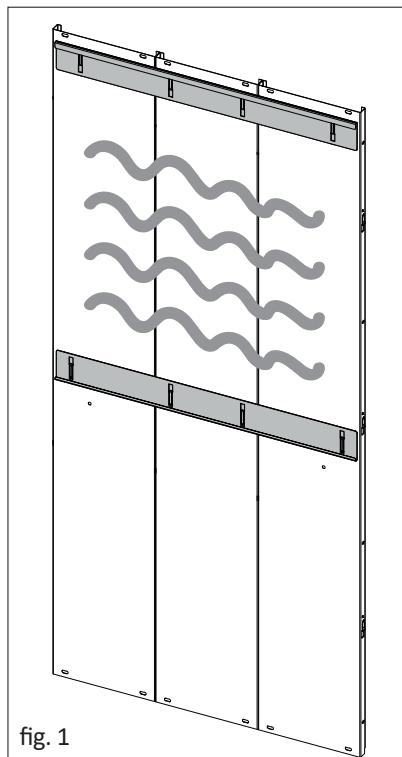

fig. 1
- Add the silicone as shown (Fig. 1).